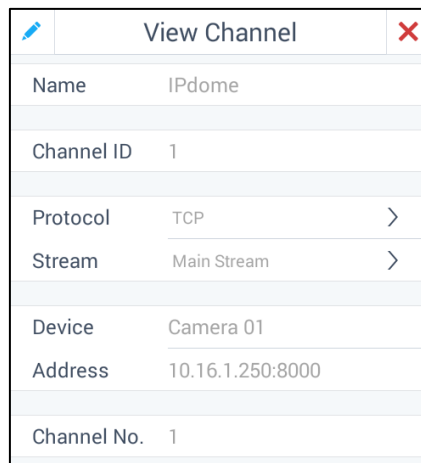

Figure 4.19 Viewing the Camera for the Admin
1. Click the camera tab to view the details. A window of channel details is shown in Figure 4.19.